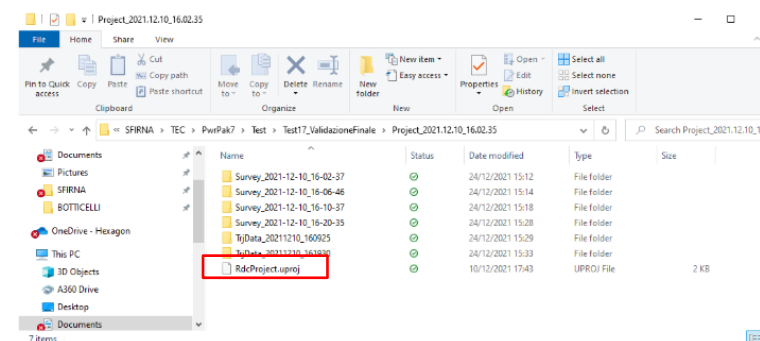
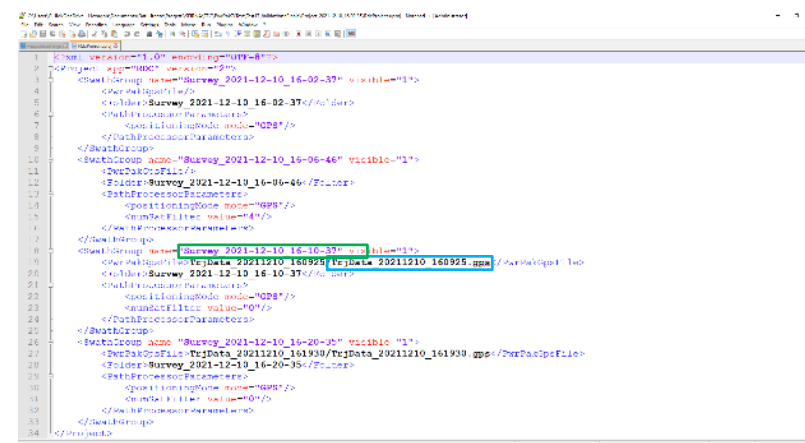

Fig. 83 – TrjData folders structure
Fig. 84 – TrjData folders structure
5. Each APS Survey is associated with a **TrjData** folder which contains a **TrjData.gps** file (Fig. 83).
To associate the right **TrjData.gps** file to each Survey it is advisable to check the **project file** (red square Fig. 83) by opening it with Notepad application. The **project file** report, for each Survey (blue square Fig. 84), the associated **TrjData** (green square Fig. 84) allowing to select the right one during importing phase.